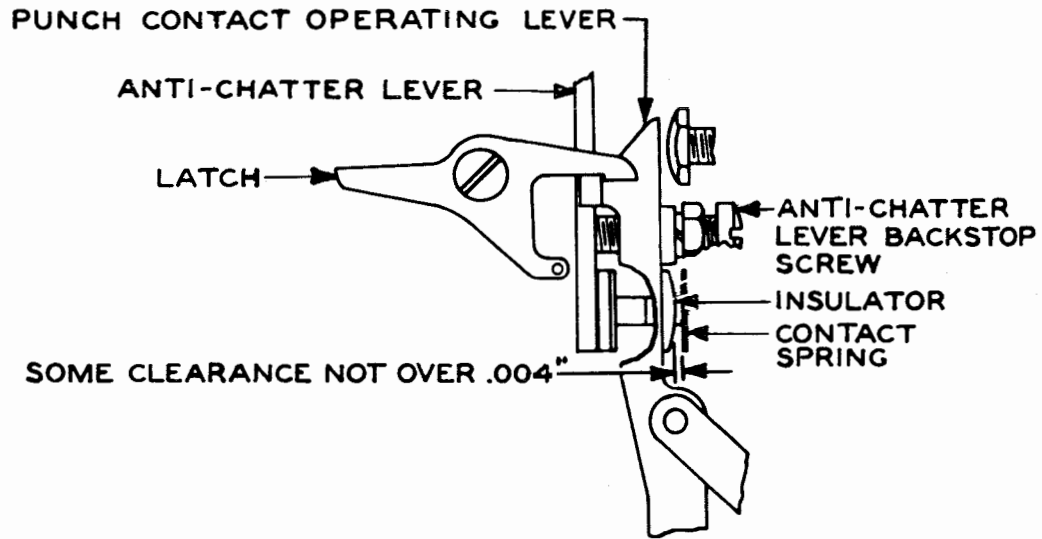

Figure 15
2.28 Punch-contact Operating Lever: There should be clearance as specified in the figure between the insulator on the punch-contact operating lever and the right (long) contact spring when the antichatter lever is resting firmly against its backstop screw and the punch-contact operating lever is held in its latched position by the positive action latch, and the armature is lifted off its left stop approximately 1/16 inch. See Figure 15.